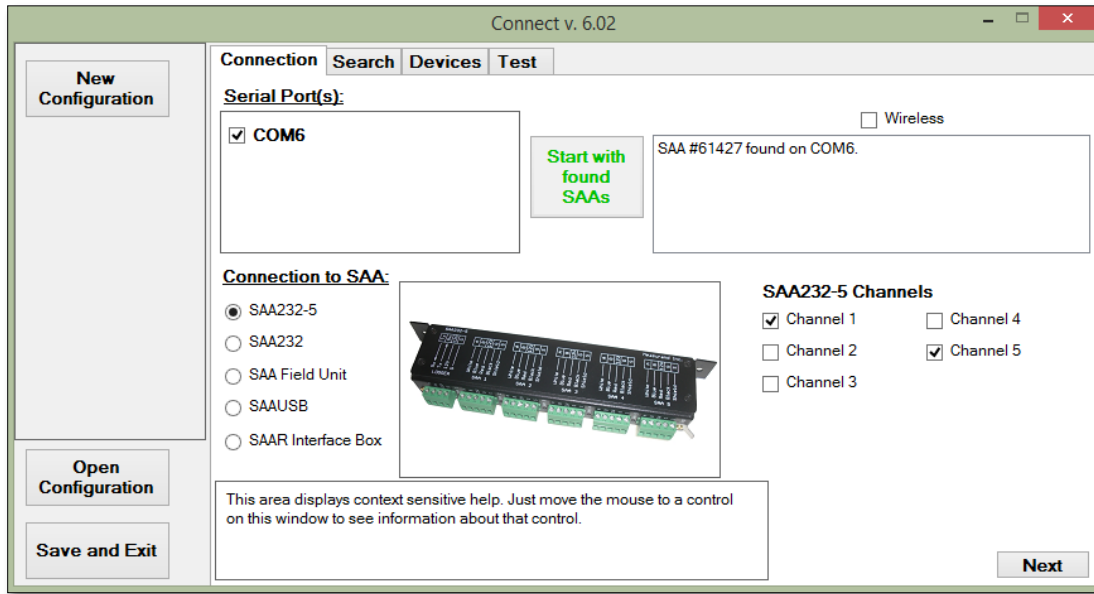

Figure 6.10: SAAREcorder 'Connection' window with the SAA232-5 selected.
4. Click the 'SAA232-5' choice under the 'Connection' tab, the window should appear as it is in **Figure 6.10**. Select the channels being used.